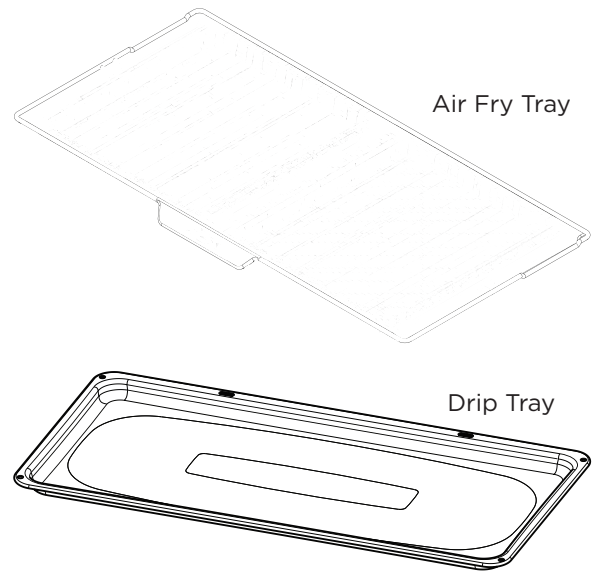

Figure 14: Air Fry Tray and Drip Tray
- When using Air Fry, place food on rack position 4 for best results. Place drip tray on rack position 3 to catch any crumbs or drippings. See figure 14 for Air Fry tray and Drip tray.